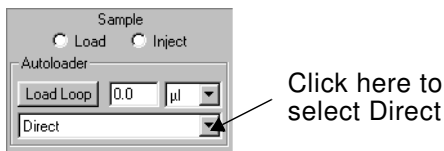

Figure 5-20 Sample Section of Control Panel
2. Select **Direct** from the drop-down list box at the bottom of the Sample section (Figure 5-20).